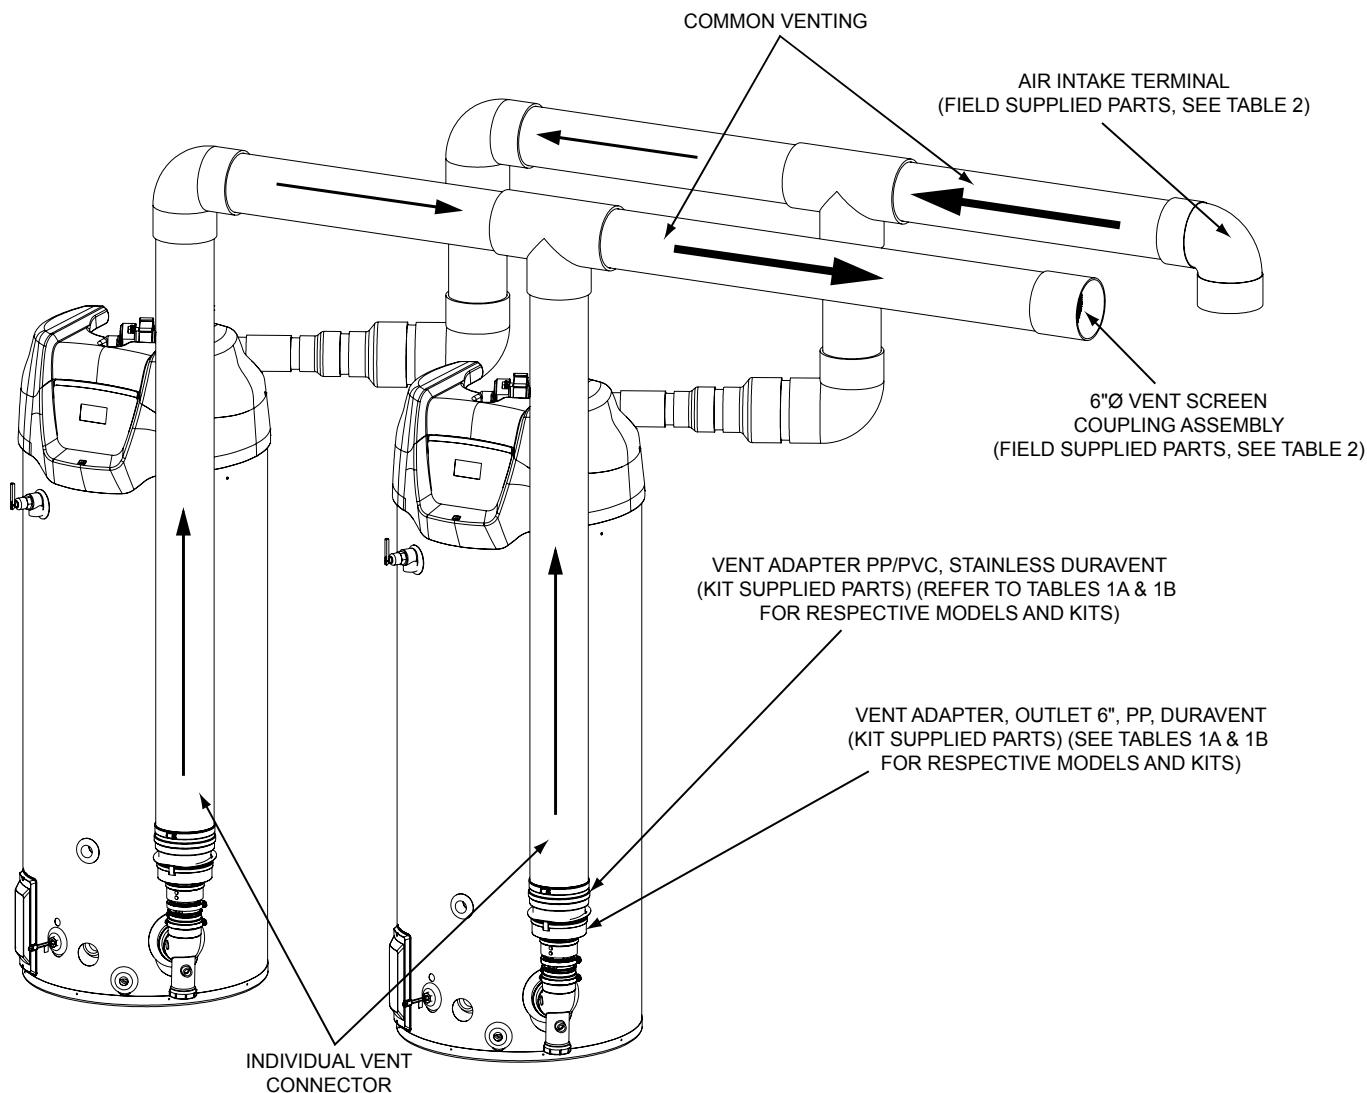

FIGURE 1. DEFINITION OF SYSTEM SECTIONS - PVC
- Two (2) heaters only,
- No change to the system layout, as shown in Figure 1 or Figure 4, except as explained in the section following and
The common vent is the section of the vent and air inlet piping where the gases from both heaters flow together, See Figure 1. The maximum equivalent length straight pipe and elbows of the common sections is 50 feet. The minimum equivalent length of the common sections is 3 feet. Each 90° elbow is equal to 5 feet and a 45° elbow is equal to 2½ feet. The maximum number of elbows is three. The air intake terminal (90° elbow) is not included in the equivalent length.
The individual vent connectors attach the heaters to the common vent. The exhaust vent connectors are attached to the water heater with the parts in the kit. The air inlet connectors are attached with PVC reducing fittings to the heater's PVC coupling. As shown in Figure 1, the individual vent connectors consist of vertical and horizontal sections that connect the heater outlets to the common vent. Using different lengths of pipes, the height of the horizontal sections may be adjusted to be from 80" to 110" from the bottom of the heater to the centerline of the horizontal section. The combustion air and exhaust vent sides of the system may be different heights, but each must meet the 80" to 110" height requirement.
The common sections are the pipes that carry the vent gas or intake air to and from the outside. Each pipe must extend from the tee over the heaters to the outside/ outdoors etc. It is preferred to run the air and vent sections next to each other, over a similar path as shown in Figure 1. However, differences may be needed in the field. The requirements for both the air intake and vent common sections are: